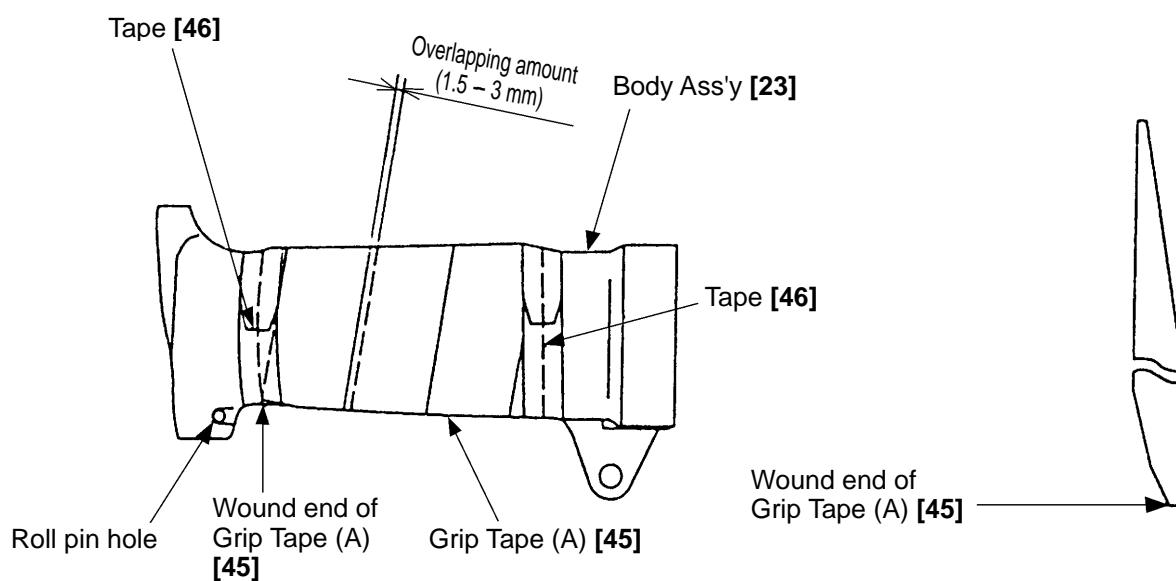

Fig. 10
(2) Winding Grip Tape (A) [45] and the Tape [46]
Grip Tape (A) [45] and the Tape [46] are self-adhesive. Peel the backing sheets off Grip Tape (A) [45] and the Tape [46] before adhering them to the Body Ass'y [23]. First, adhere the end of Grip Tape (A) [45] near the roll pin hole of the Body Ass'y [23], and start to wind it around the Body Ass'y [23]. When the winding is completed, fix both wound ends of Grip Tape (A) [45] by winding the Tape [46] (Fig. 10). Be careful that Grip Tape (A) [45] and the Tape [46] cannot be peeled off once they are adhered.